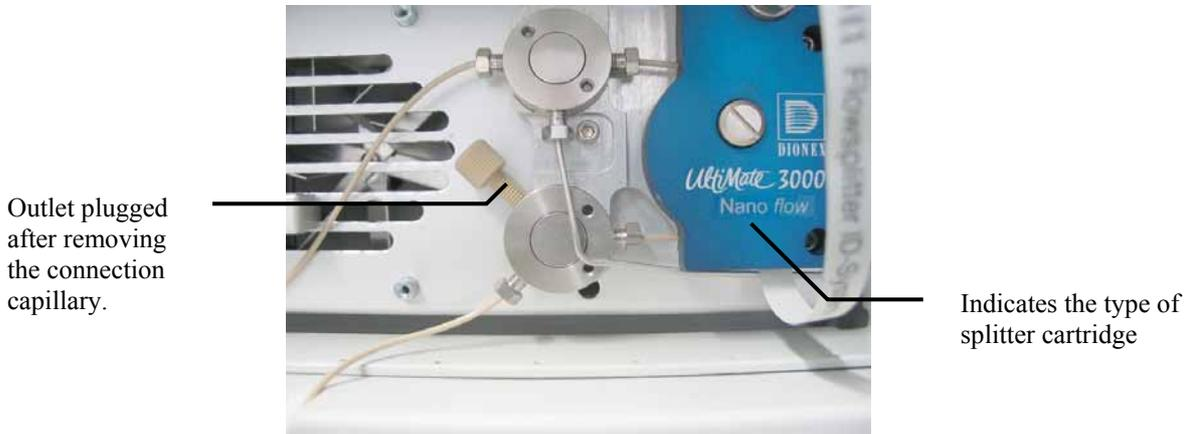

Fig. 3: Pressure Test of the Flow Control Valve
3. Select a Chromeleon test program from the CD included in the kit (for installation instructions, see section 1.4, page 3). The splitter cartridge (→ Fig. 3) and the split ratio define which program is required. Refer to TABLE 1 to select the appropriate test program for your system configuration. A program example is also presented in the Appendix (→ page 23):
Fill solvent bottle A of the micro pump with water + 0.05% TFA, if not yet done, to flush the flow control valve. Run the flushing program for your application from the CD included in the kit (for installation instructions, see section 1.4, page 3). The splitter cartridge (→ Fig. 3, page 6) and the split ratio define which program is required (→ Table 3). A program example is also presented in the Appendix (→ page 23).